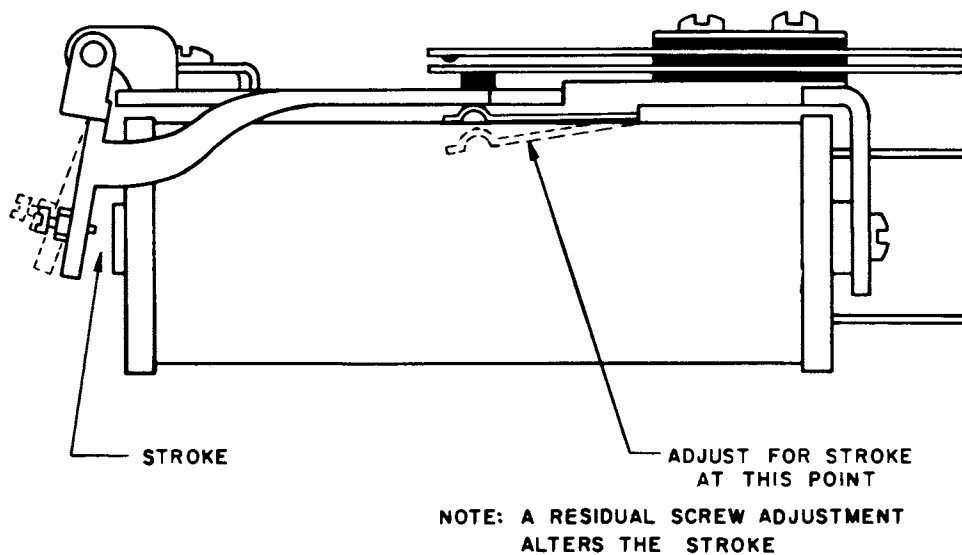

Figure 21. Armature back stop adjustment.
8.6 Setting the Relay Armature Stroke (See Figure 21)